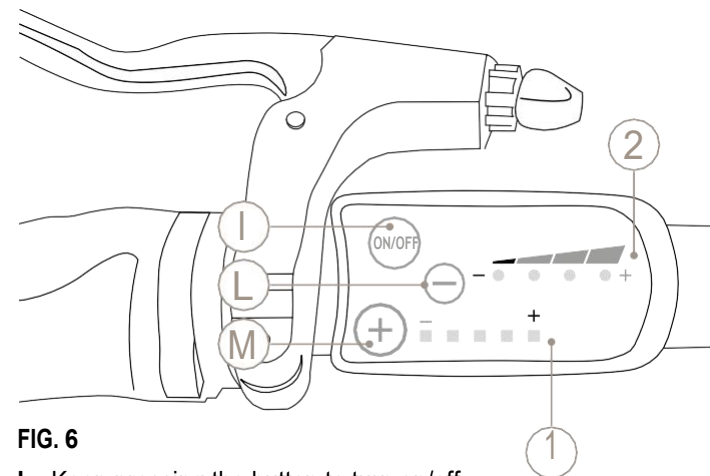
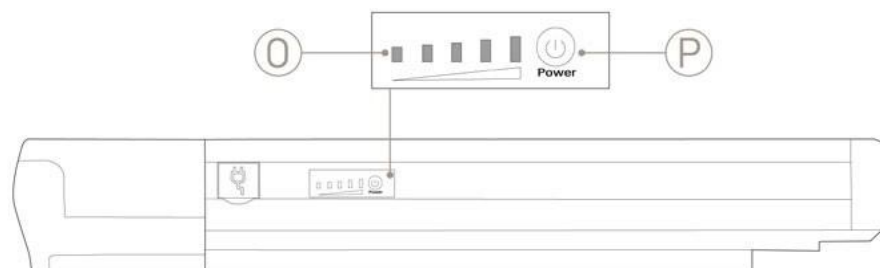

FIG. 6
FIG. 9
The assistance system is controlled via the display on the handlebar, near the left grip. In particular, the assistance is activated or deactivated via the “ON/OFF” button (Ref. I - Figure 6). Once the system is activated, the management display itself lights up (Figure 6), through which it is possible to see the activity status of the vehicle. The engine power depends on the force applied to the pedals, according to a multiplication factor based on the assistance level selected. The assistance decreases linearly until reaching 25 km/h. Once this speed is exceeded, the assistance is automatically deactivated.
By pressing the assistance activation button on the display (Ref. L - Figure 6) you can directly view the battery charge status on the control display. As the battery gradually discharges, the charge status indicator bars on the display will turn off and then the assistance system will turn off when the system's power battery is completely discharged. It is also possible to view the battery charge status directly on the battery itself, thanks to the 5 LED lights (Ref. O - Figure 9) and the power button (Ref. P- Figure 9), present.
- 1- Turn off the pedal-assisted bicycle assistance system using the appropriate “M” button (Ref. L - Figure 6);